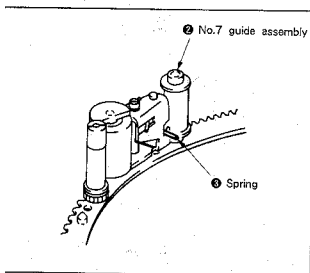

Fig. 7-15.
-) Change the position of the spring ③ on No. 7 guide assembly ②. (See Fig. 7-15.)